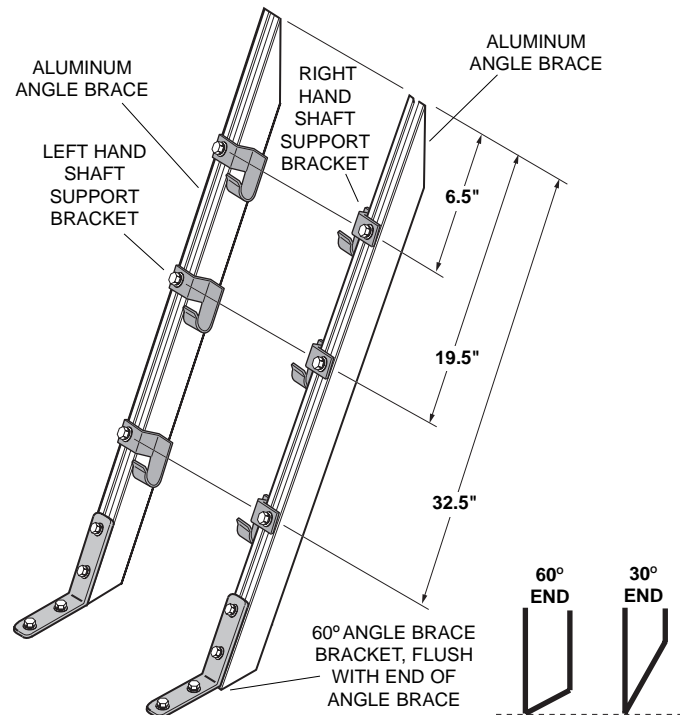

Figure 4.
4. Locate two 30°/60° aluminum angle braces, two 60° angle brace brackets, and three RIGHT HAND and three LEFT HAND shaft support brackets. Orient angle brace with 60° angle at bottom and slide brackets into position (Fig. 4). Wrench tighten shaft support brackets but only finger tighten angle brace bracket at this time. Wire spool support brackets may be moved, if desired, after cart is assembled.